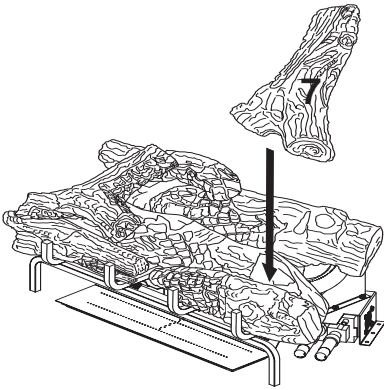

Figure 37- Installing Log # 7
7. Place the right crossover log (#7) on top of the middle log and rear log as shown in Figure 37. Match the round peg on the top of the rear log with the round hole on the bottom of the right crossover log and square peg on the top of the middle log with the square hole on the bottom of the right crossover log.